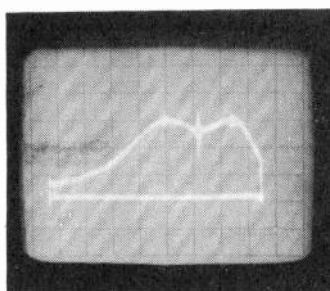

Fig. 14-33. The 4.08-MHz marker is close to the left edge; 3.58 MHz is still in the center.
To continue with the alignment (Fig. 14-33), the 4.08-MHz marker is on the left slope, the 3.58-MHz marker in the center; the 3.08-MHz lower sideband marker is turned off. This looks pretty good, and is within the left downward slope; in this instance, toward a lower frequency. We do the same thing for
19. A chroma alignment (Fig. 14-33) can be best done with all three markers visible simultaneously?